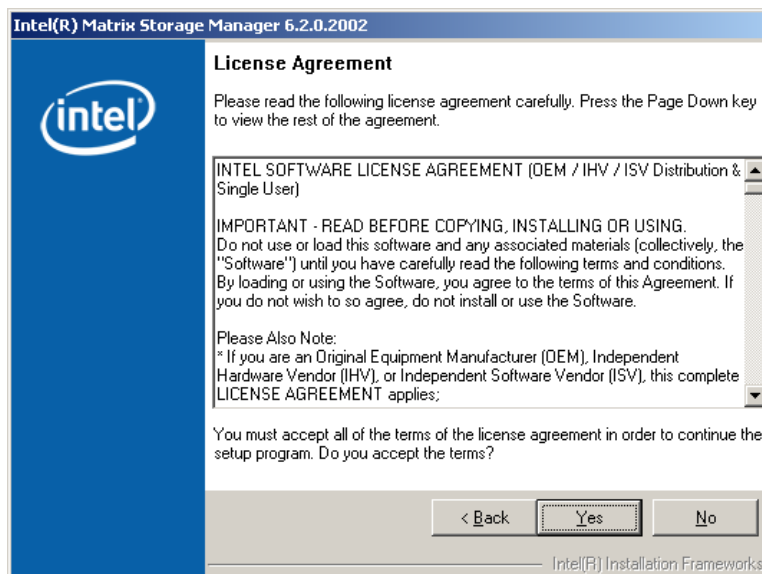

Figure 7-42: Matrix Storage Manager License Agreement
Step 9: Click **NEXT** and a license agreement appears (**Figure 7-42**).